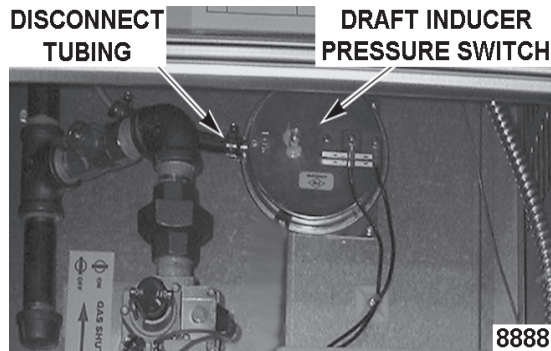

Fig. 15
3. Verify draft inducer pressure switch (Fig. 15) operation.
- B. Disconnect tubing from draft inducer pressure switch (Fig. 15), burner flame should go out.